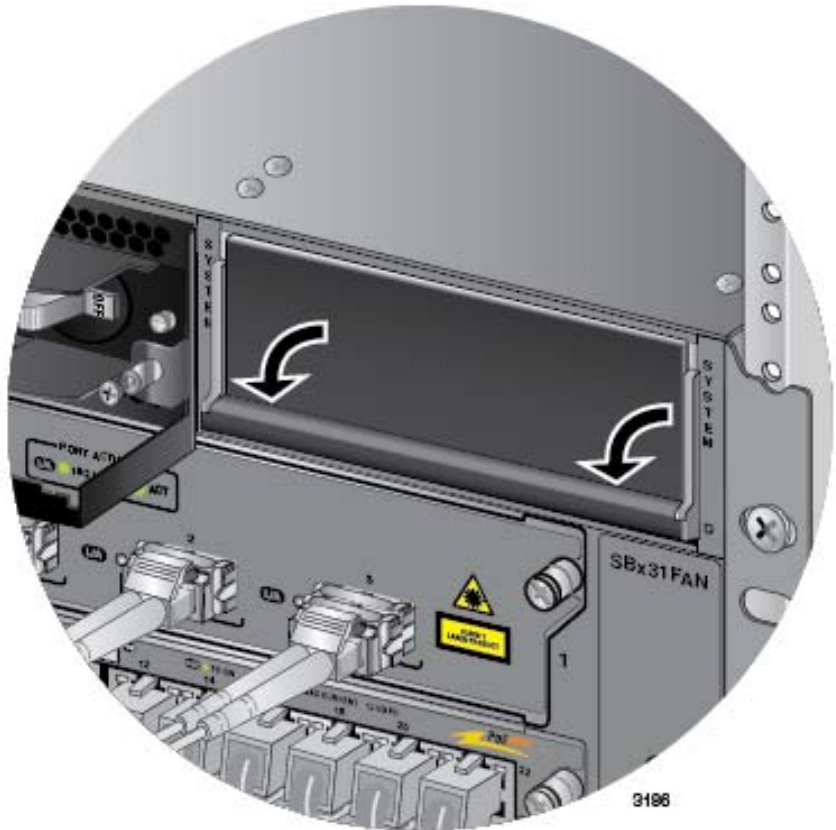

Figure 169. Lowering the Locking Handle on the Power Supply Slot Cover
14. Lower the locking handle to secure the slot cover to the slot. Refer to Figure 169 on page 271.